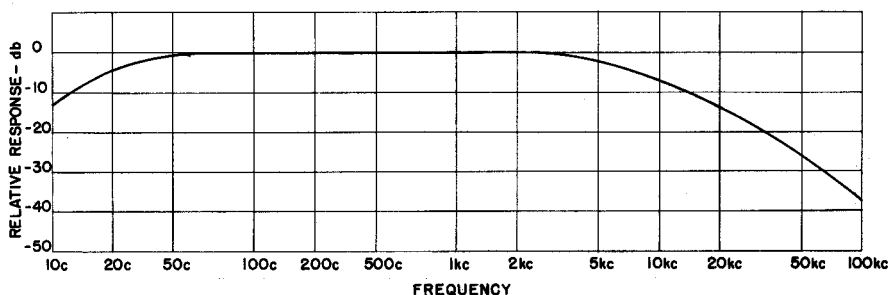

Figure 2. Frequency Response Curve.
2.5 FREQUENCY RESPONSE. The maximum open-circuit voltage gain is over 70 decibels at 10 cycles, over 45 decibels at 100 kilocycles, and greater than 83 decibels at midband. The frequency characteristic is shown in Figure 2.